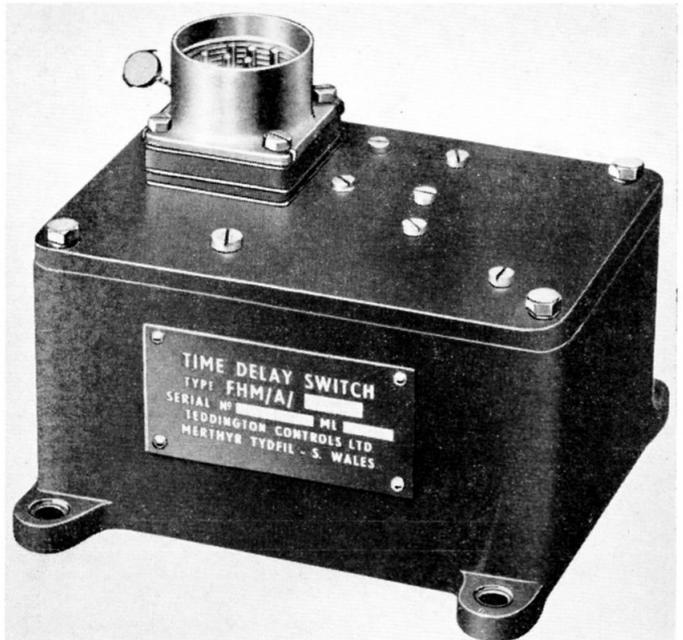

Fig. 1. Time switch, Type FHM/A/27
3. The switch (*fig. 1*) is encased within a cast aluminium housing, the cover plate of which provides a base for the mechanism. The cover is secured by four 4 B.A. hex/hd. bolts, and has bolted to one corner of it a 9-pole Breeze plug. A rubber gasket between the housing and the plate, together